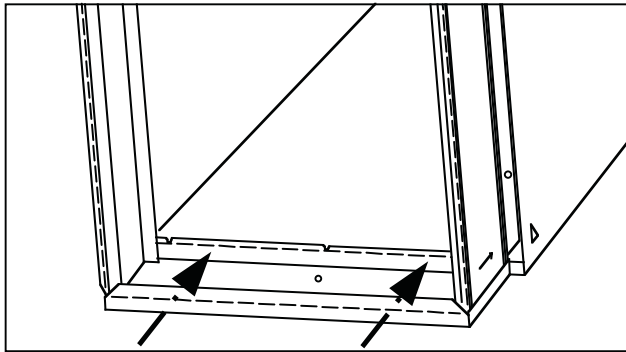
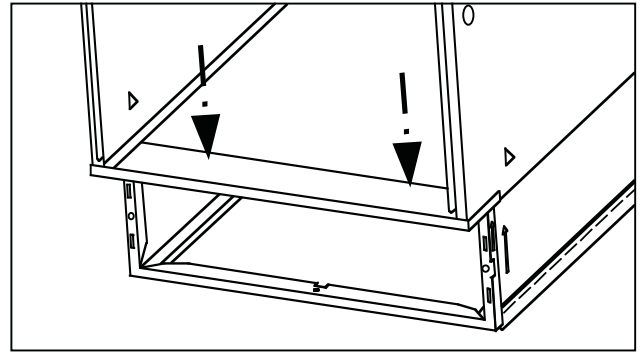

Fig. 14 - Bottom Mount Rear Attachment
Fig. 15 - Bottom Mount Front Attachment
- f. Four self-tapping, 1/2-in. sheet metal screws (not provided) are necessary to attach the filter cabinet to the furnace. Install 2 screws through the back flange of the filter cabinet, and into the bottom flange of the furnace. (See Fig. 14.) Install 2 screws from inside the blower compartment, through the bottom panel and into the front flange on the filter cabinet. (See Fig. 15.) If necessary, pre-drill screw holes using a 1/8-in. diameter drill bit.